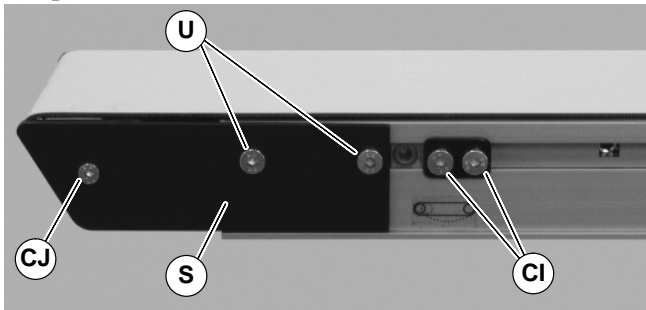

Figure 54
2. On one side of conveyor, use a 3 mm and 4 mm hex-key wrench to remove head plate fastening screws (CJ & U of Figure 54) and remove head plate (S).
4. After replacing bearings, re-install head plate (S of Figure 54). Use a 3 mm hex-key wrench to tighten one (1) fastening screw (CJ) to 30 in-lb (3.4 Nm). Leave two (2) fastening screws (U) loose for belt tensioning.